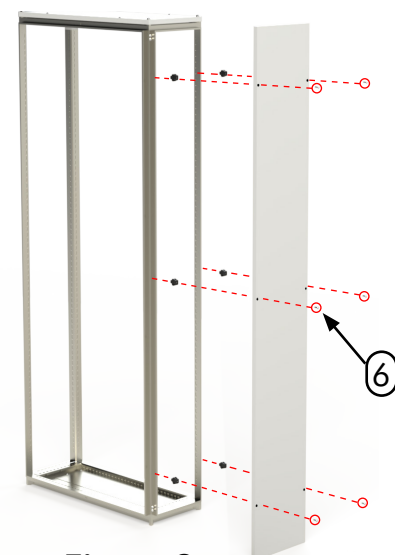

Figure 3
- Position the side panel (Item 2) onto the fixing clips (Figure 3).
- Position the rear panel (Item 1) onto the fixing clips (Figure 3).